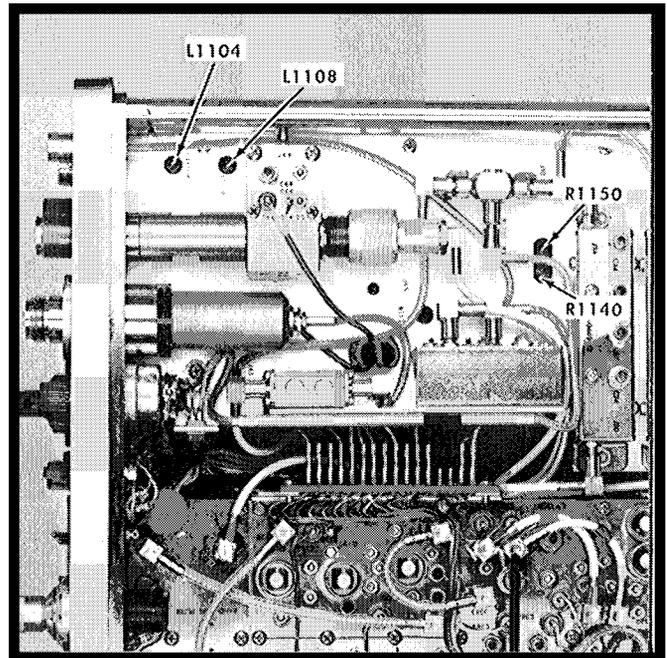

Fig. 6-34. Location of L1104 and L1108, R1150 and R1140.
d. Adjust L1108 (Fig. 6-34) for a positive oscillator start when the INT REF FREQ control is turned from its OFF to ON position. The signal position on the screen should be consistent as the INT REF FREQ control is switched from OFF to the initial ON position. (The control must not be turned past the initial ON position or the oscillator frequency will be changed.)